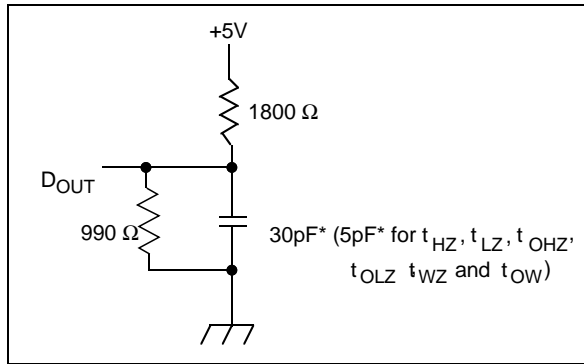

Figure 1. Output Load
4. Transition is measured ± 200 mV from steady state voltage prior to change, with loading as specified in Figure1. This parameter is sampled and not 100% tested.
Output Load	See Figures 1 and 2